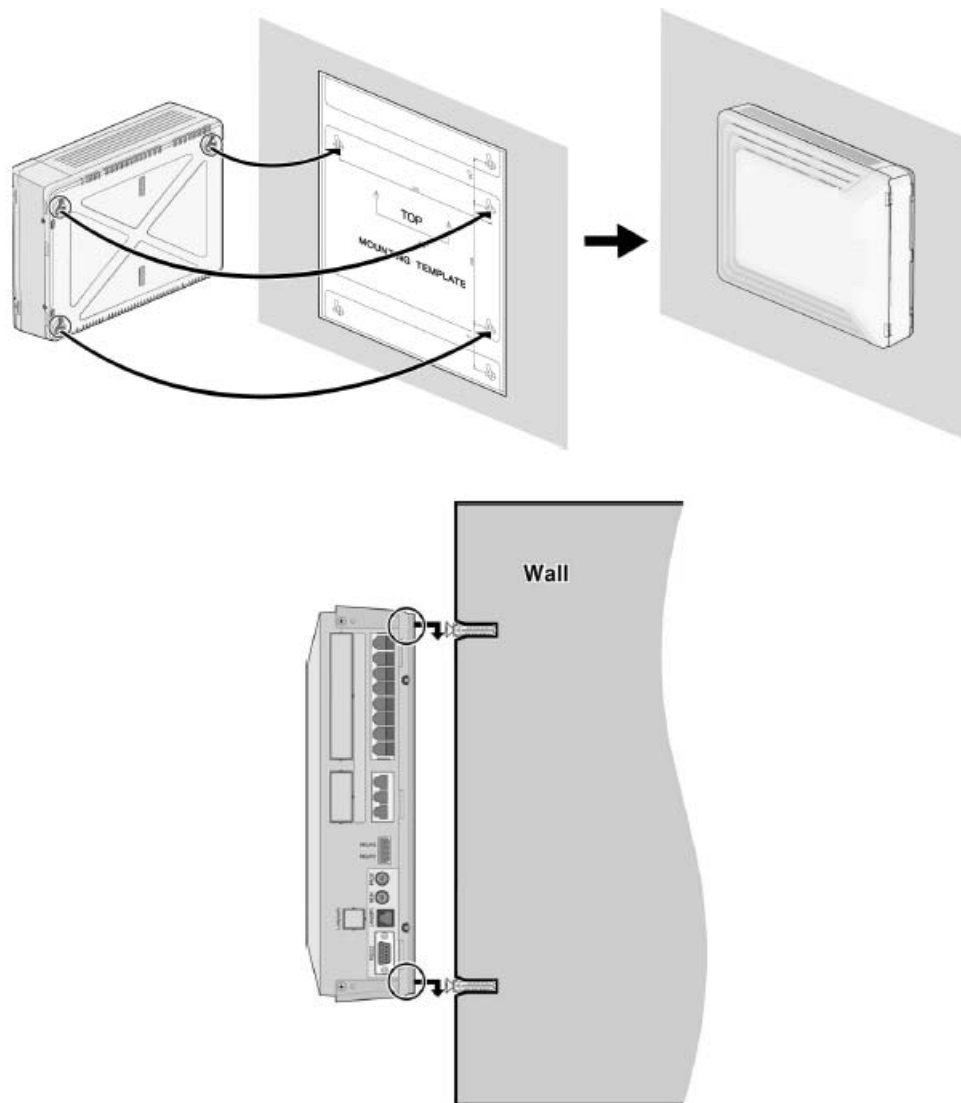

Figure 3-5 Wall Mounting the KSU
3. Hook the KSU onto the screws, making sure that the System slides down securely Figure 3-5.